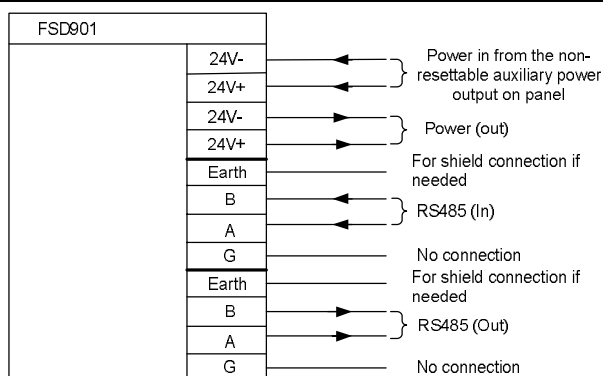

Fig 3 Connection
5. Connect cables to terminals referring to the connection diagram (Fig. 3). Correctly set the internal 120Ω EOL resistor referring to the section "EOL Resistor".